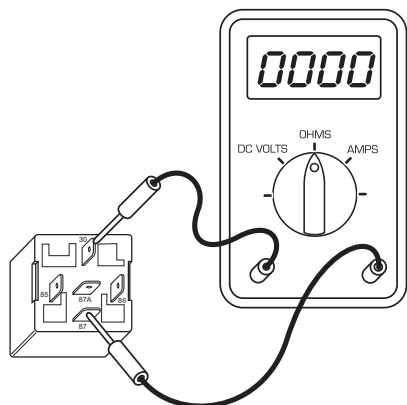

Figure 52
- Continuity test. Connect ohmmeter between terminals 87 and 30 (Figure 52). Ohmmeter must indicate **no continuity**.